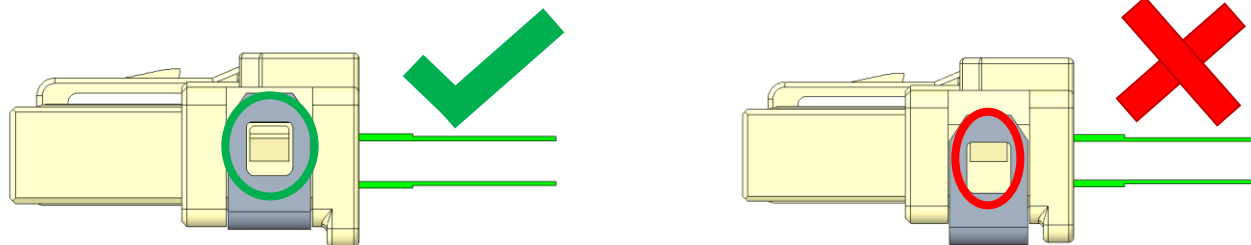

Figure 3
3.1.2 The following procedures provide the details of the spacer housing installation into the rec housing. See Figure 3. Spacer will only easily go into rec housing in one orientation.